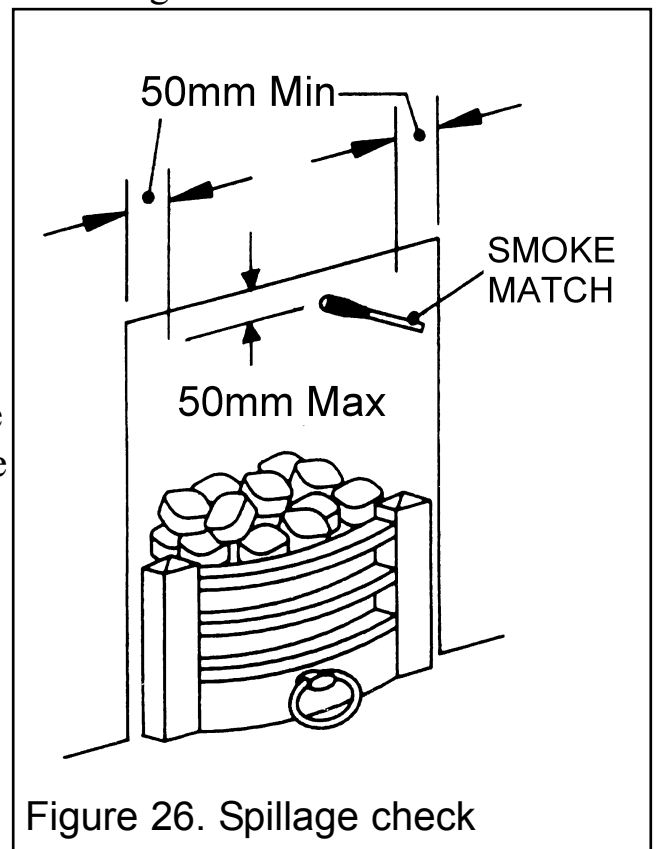

Figure 26. Spillage check
- *A spillage check must be made before leaving the installed appliance with the customer. Make this with all the ceramic fuel effect pieces are in position. (See figure 26)*